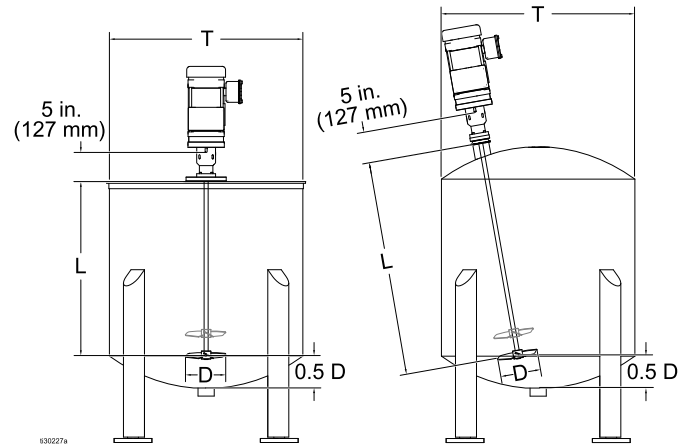

Figure 1 Measure for Shaft Length
*Recommended impeller blade diameter is generally determined by taking the inside dimension of the tank, drum, or vessel (T in Figure 1) and multiplying by 0.35.
1. Find the distance from the bottom of the tank up 1/2 the impeller diameter (i.e., 2", 4", or 6") (See 0.5 D in Figure 1).
2. From that point, measure to the lid mounting surface (L).
3. Add measurement in step 2 (L) to the length of the bearing housing (5" or 127 mm).